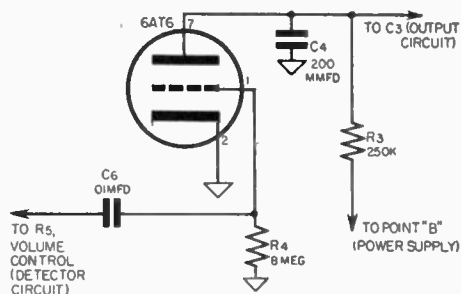

Fig. 8-27. First audio circuit.
d) *First Audio Circuit.* See Figure 8-27.